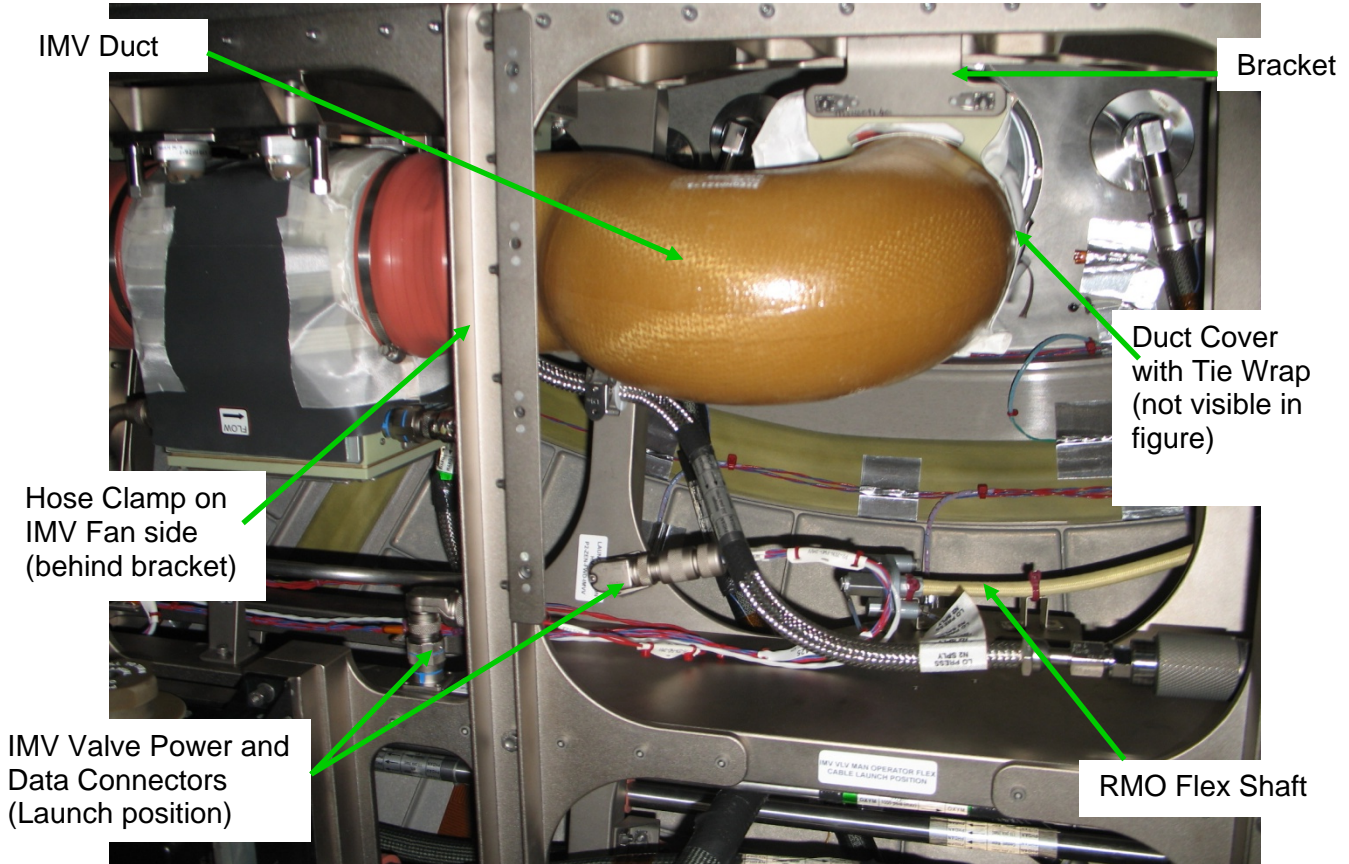

Figure 6.- Starboard Deck IMV Duct and NPRV (view looking Stbd).
Refer to Figure 6.
- 5.3 Release RMO Flex Shaft from launch location by cutting red wire ties (Wire Cutters). Remove Tethered Cap from end of RMO Flex Shaft (Ratchet, 1/4" Drive; 4" Ext, 1/4" Drive; 5/32" Hex Head, 1/4" Drive). Refer to Figure 6.
Refer to Table 3, figure 6.